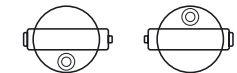

Figure 6
- a) Adjust the lifting screws to center the bubble vial and rotate the telescope by 180° . The bubble vial should remain in the center (Figure 6).